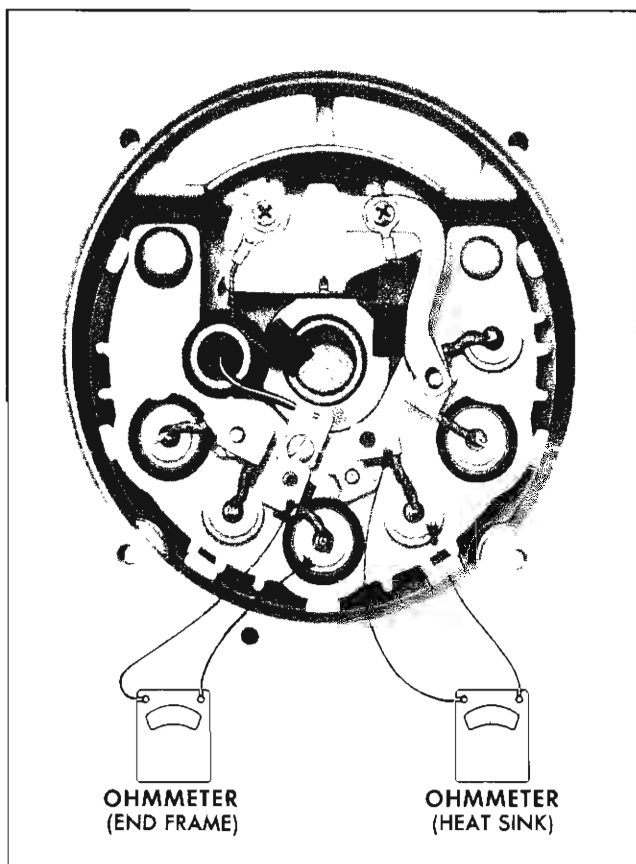

Fig. 11-18 Checking Diodes
1. With the stator disconnected, check a diode in the heat sink by connecting one of the ohmmeter leads to the heat sink, and the other ohmmeter lead to the diode lead and note reading, (see Fig. 11-18).
1. To check a diode mounted in the end frame, connect one of the ohmmeter leads to the end frame and the other ohmmeter lead to the diode lead and note reading (see Fig. 11-18).